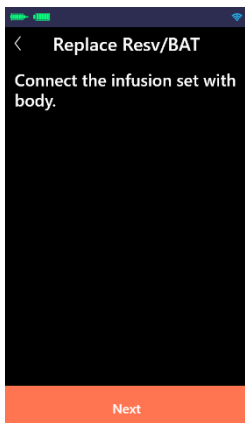

Figure 10.4
(4) Connect the infusion set with body (as shown in Figure 10.4). When it is completed, click "Next".